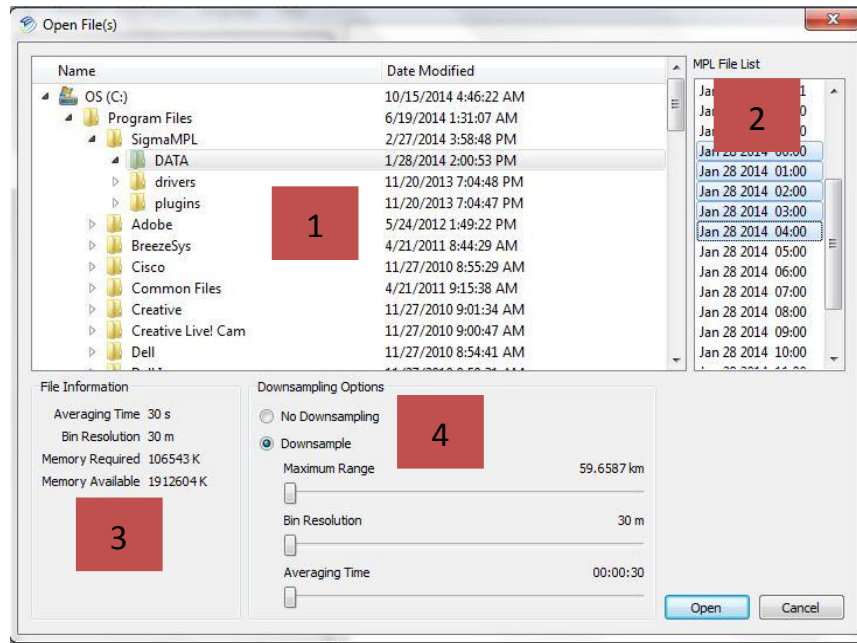

Figure 5: *SigmaMPL* Open File(s) Window
4.4.2. The Open File(s) window shown in Figure 5 has four sections. These sections are explained in Table 2.